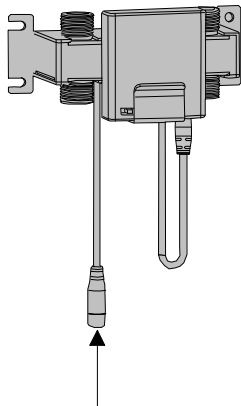

FIG. 2
2. Pass cable from the AG250-403 pedal through the 3/8-inch opening under the cabinet plate and connect it to the AG250-003 valve installed inside the cabinet. (FIG.2)